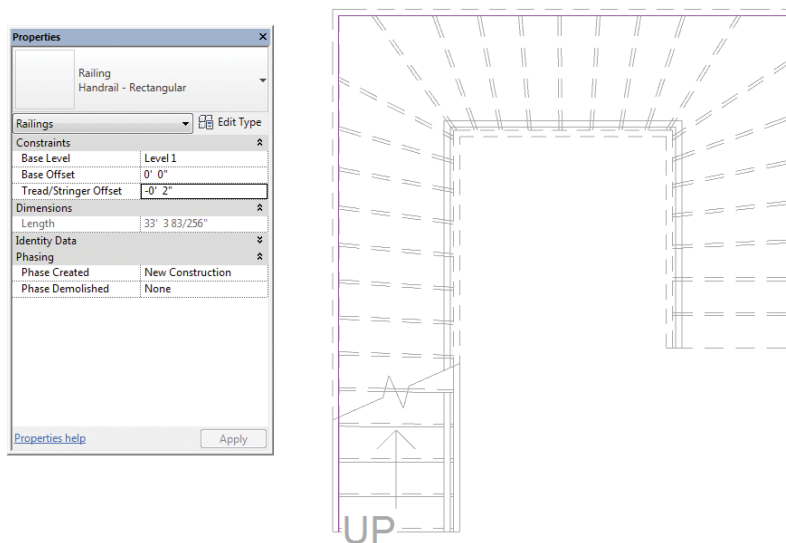

FIGURE 4.22 Second sketch and Tread/Stringer Offset
5. Create another railing using the same steps but for the opposite outside three stringers. Instead of using 2" (50 mm) for the Tread/Stringer Offset use -2" (-50 mm) (Figure 4.22).